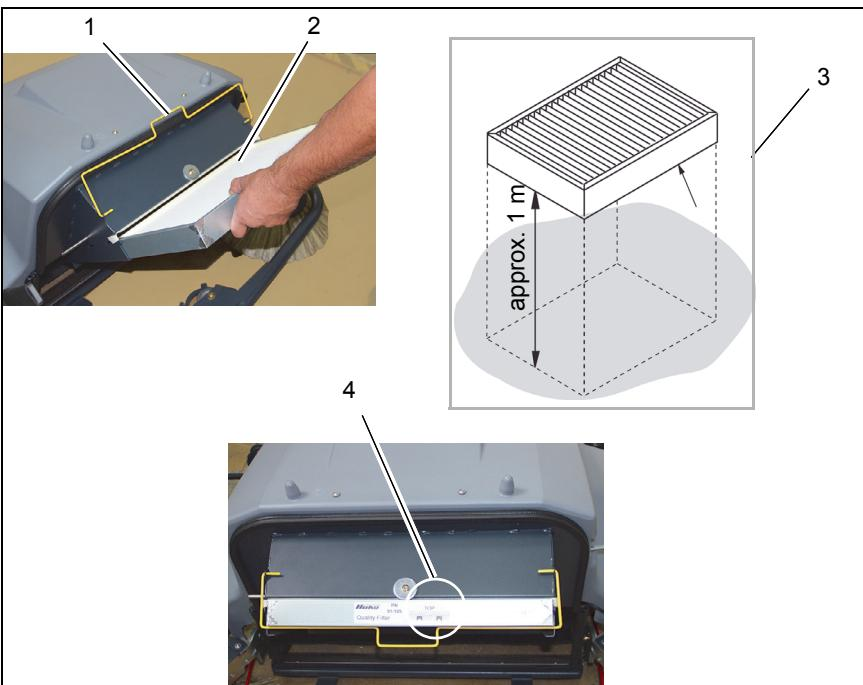

Fig. 7
2. Swivel the yellow handle (Fig. 7/1) upwards and pull the filter (Fig. 7/2) out of the frame.
The dirty side must be facing the floor (Fig. 7/3).
Ensure that the installation position is correct! Markings (Fig. 7/4) can be found on the frame of the filter.